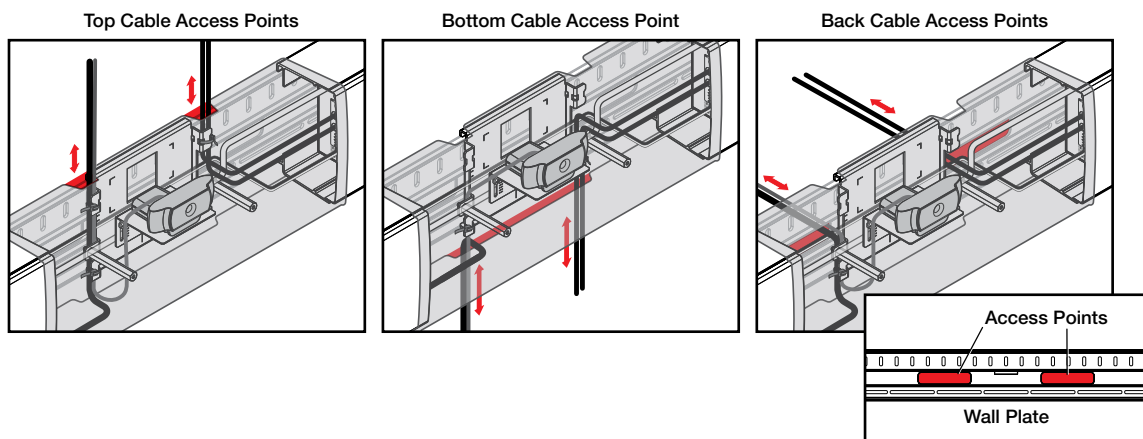
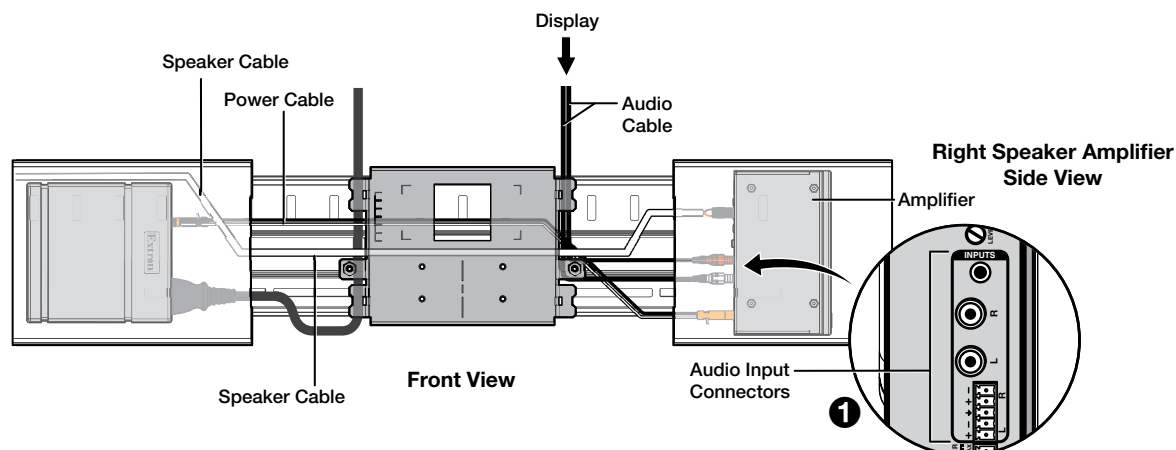

Figure 26. Power and Speaker Cable Routing
Figure 28. Routing Speaker Cables from the Display
3. Route the audio cable from the display to the audio input connectors of the power amplifier (see figure 28, ❶) in the right speaker assembly. See the cable access points illustration in figure 26.